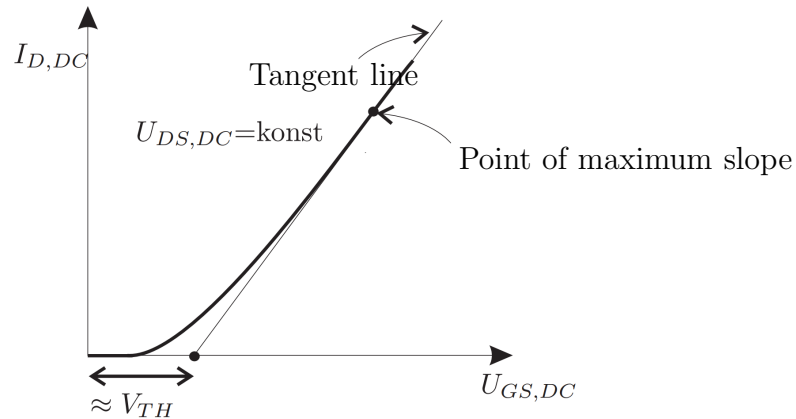

Figure 5: Graphical method for approximating the threshold voltage  $V_{TH}$ .
- g One method to experimentally "extract" the threshold voltage for a transistor is to sketch the tangent line in the input characteristic field at the point of maximum rise and determine the intersection point of the tangent line with the  $U_{GS,DC}$  axis (see Fig. 5). Use this method to approximately determine the threshold voltage  $V_{TH}$  of the transistor.